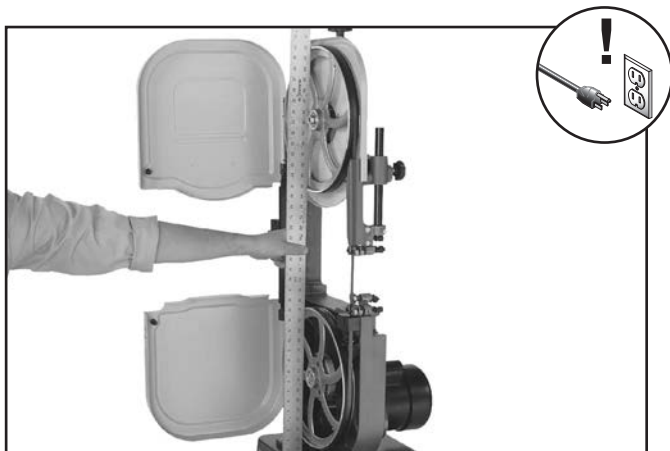

Figure 63. Checking if the wheels are coplanar.
3. With the blade on and properly tensioned, hold a straightedge close to the center of both wheels. Make sure the straightedge fully extends across the rims of both wheels, as shown in **Figure 63**.